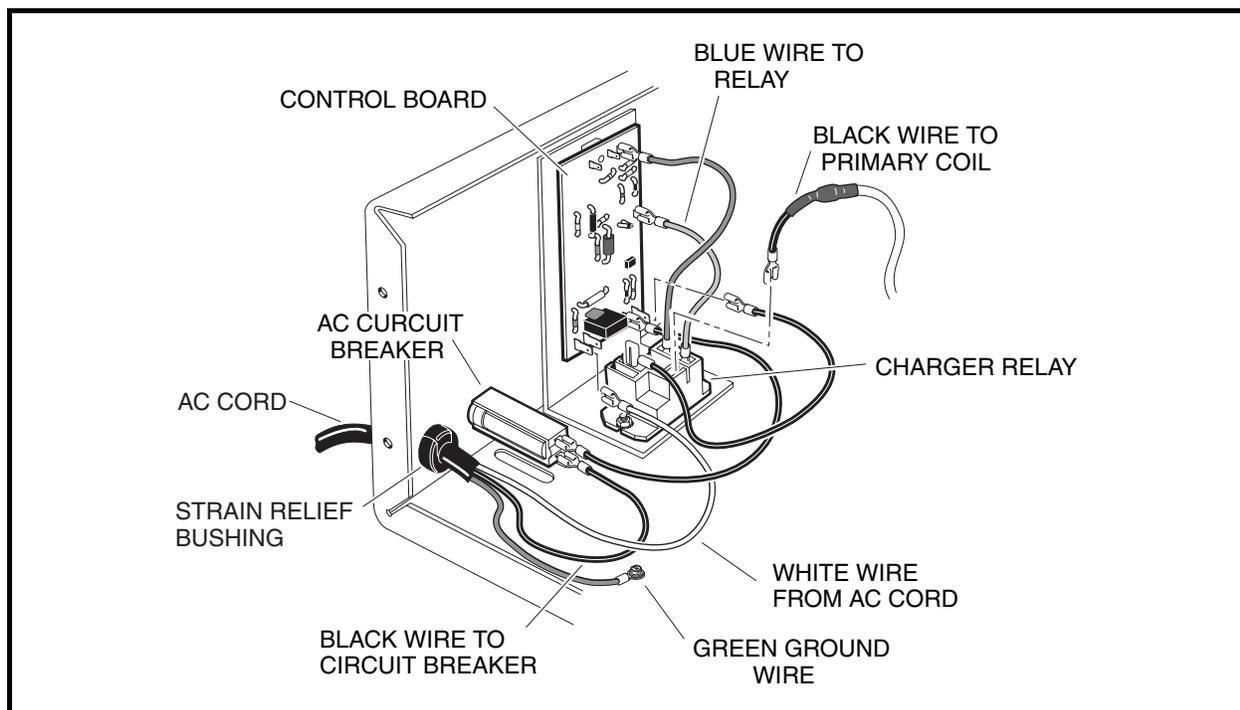

Figure 4-21 Charger Relay
3. Disconnect all wires from the relay (**Figure 4-21, Page 4-26**).
1. Install in reverse order of removal. Connect wires as shown (**Figure 4-21, Page 4-26**). Tighten nut securing relay to charger base to 18 in-lb (2.0 N·m).
3. Disconnect the two black wires attached to the AC circuit breaker (**Figure 4-21, Page 4-26**).
3. Disconnect the AC cord black wire from the AC circuit breaker (**Figure 4-21, Page 4-26**).
5. Disconnect the AC cord green wire from the charger base (**Figure 4-21, Page 4-26**).
1. Insert the black, white, and green leads of the new AC cord into the charger through the hole in the charger face (**Figure 4-21, Page 4-26**).